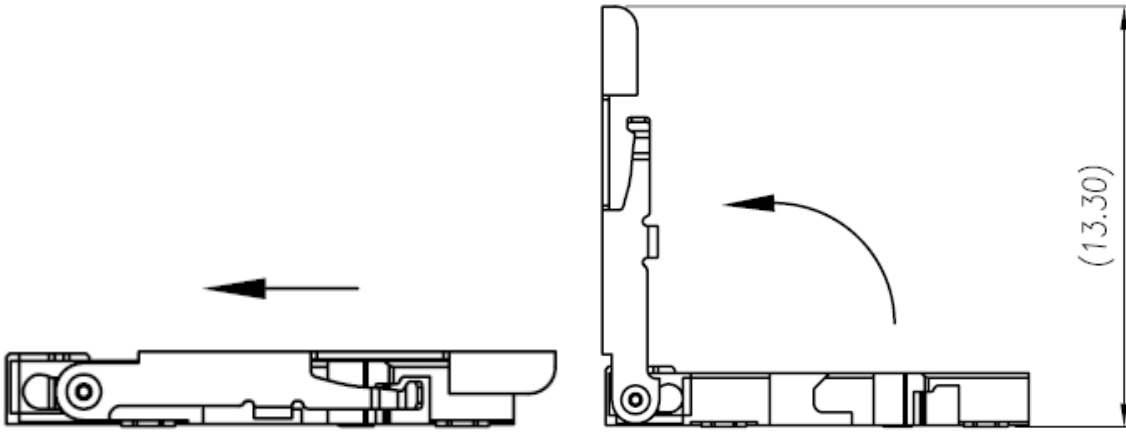
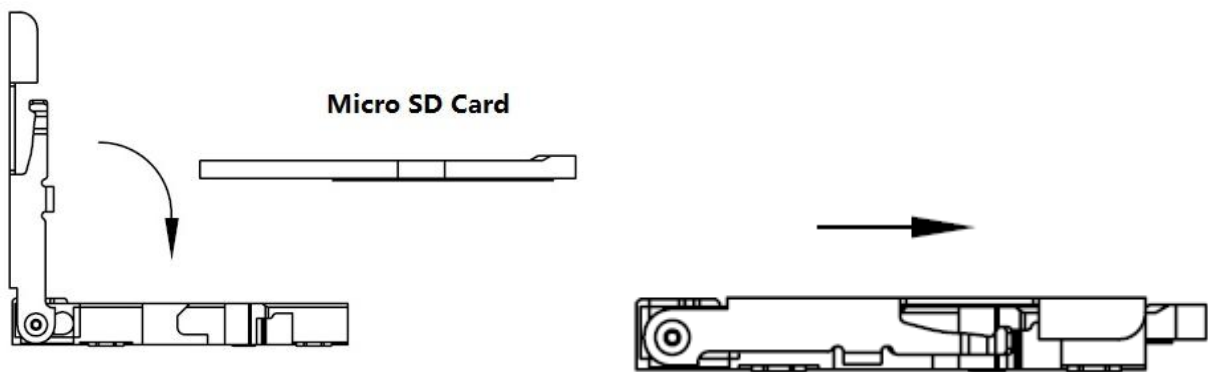

Figure 3-3 Micro SD Card installation illustration 1
Figure 3-4 Micro SD Card installation illustration 2
Step 1 Find the Micro SD Card slot in figure 3-3, open the Micro SD Card slot according to the direction in figure 3-4.
Step 3 According to the direction in figure 3-4, close the Micro SD card slot and keep it locked.